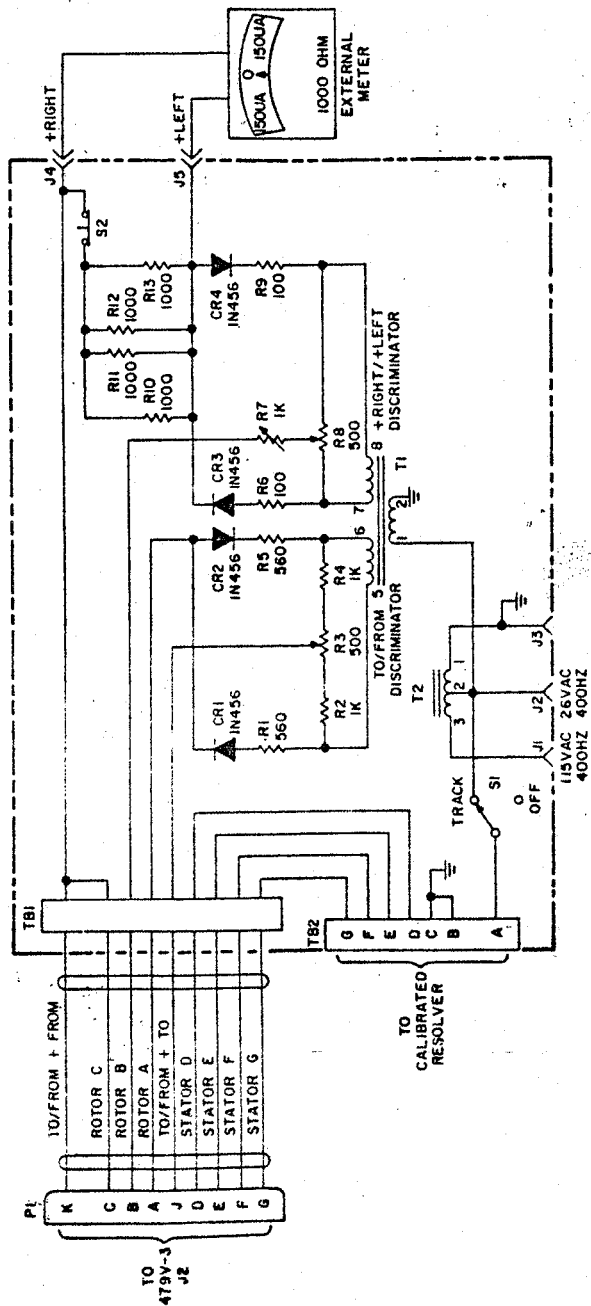

Figure 10. 479V-3 Test Fixture, Schematic Diagram
- Test fixture (see figure 10).